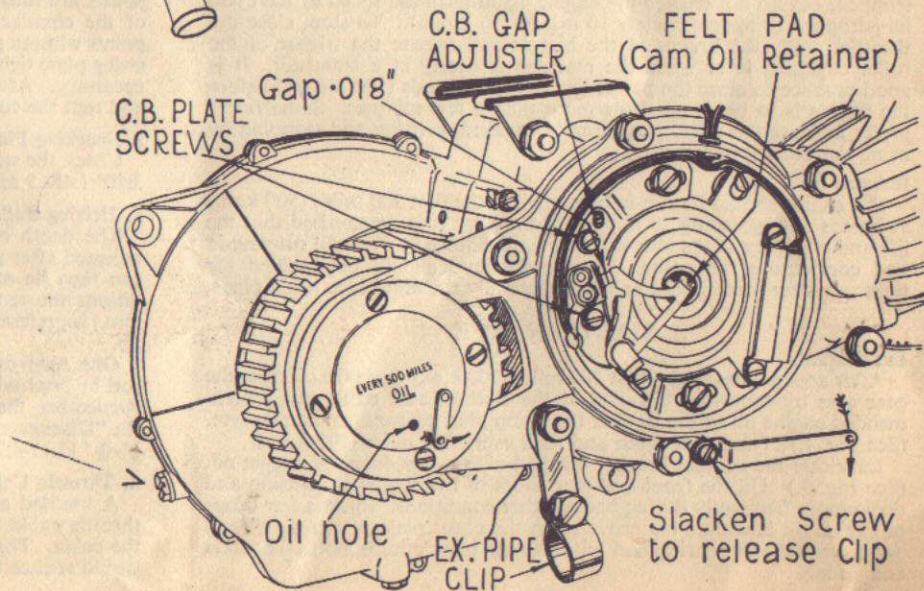

FIGURE 3.
(9) Fit the top frame clamp to the upper lug of the petrol tank with the bolt provided, temporarily removing the lower half of the clamp, and fit the adjustable lower tank lugs to the bottom frame clamp. Fit the top clamp to the frame down tube and tighten. The coil can be rotated in its housing if the high tension terminal tends to foul the frame down tube. An extra clamp is included to raise the tank if necessary, independent of the engine.
(10) Connect petrol hose to fuel tap.
(11) Attach high tension lead to sparking plug. Attach the wire with the red tab to the coil terminal marked "SW"; attach the other wire to the coil terminal marked "CB".
(12) Fit the dual control lever to the right-hand side of the handlebar, taking care to arrange the cables in a suitable manner, avoiding tight bends.
(13) Refit the bicycle pedal crank, using the adaptor if necessary.
(14) Connect the lighting set of the cycle with the terminal on the coil marked "SW" but a switch will have to be fitted if the bicycle headlamp is not originally so equipped.
(15) The exhaust pipe is attached to the silencer box by means of a clip and a second clip is secured to the pulley support as illustrated on Fig. 3.
(16) As the unit is dispatched dry, SAE30 engine oil must be injected to the level of the filling screw on the rear of the gear case. See also under "Lubrication."
(17) Some cycles may benefit from a larger rear wheel chain sprocket for easier starting.
Lubricate the contact breaker felt pad with a few drops of engine oil. (See Fig. 3.) Oil the front and rear slides of the engine suspension and do so more frequently during bad weather conditions. Inject a few drops of engine oil into the hole provided in the cover plate of the right-hand driving roller ball bearing and lubricate the bicycle hubs, bottom bracket and pedals.
1. Contact Breaker Gap (See Fig. 3).